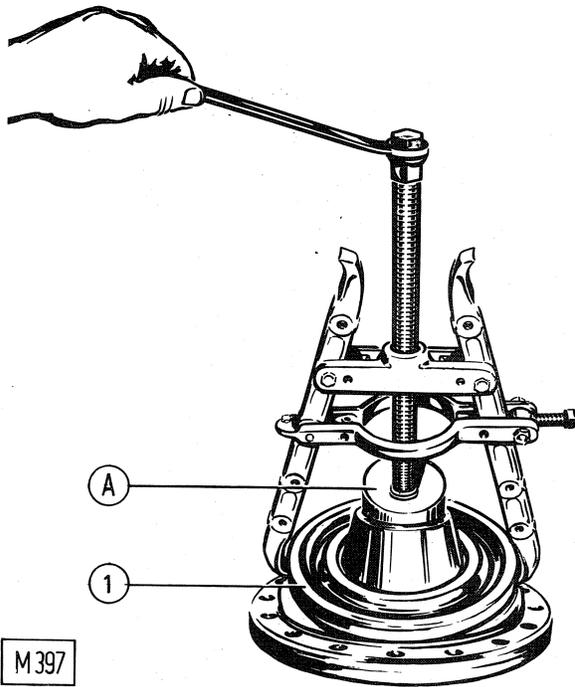

Fig. 2-8 - Removal of lower bearing race.
- use block 75292990 and universal extractor to remove the lower bearing race (1, fig. 2-8);